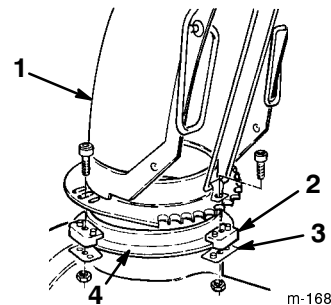

Figure 13
2. Set the discharge chute (open side forward) onto the discharge opening so that the plastic chute retainers are on the chute ring (Fig. 13).
3. Tighten the machine screw and the locknut on the left side to position the plastic chute retainer against the chute retainer plate and to secure the discharge chute to the chute ring (Fig. 13).
4. Push the other chute retainers toward the discharge chute (slotted), and tighten the machine screws (Fig. 13).
5. Make sure that the chute rotates freely on the chute ring. If the chute binds, move the right-hand retainer outward (Fig. 13).